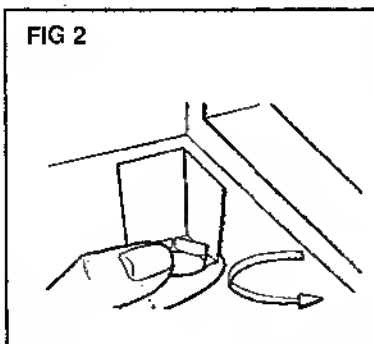

FIG 3
2. Gently lay the appliance on its back with the top held away from the floor by at least 30cm (12"), use a stool or something similar. Make sure to use a towel or cloth at the base to protect the sides of the appliance ensuring that it does not slip. Do not support the appliance on the rear ventilation grill, see Fig. 3.